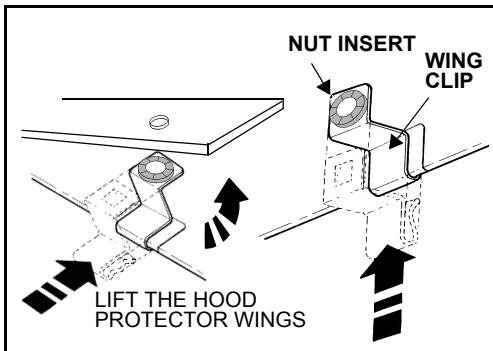

Figure 10.
10. Push one of these clips over each pre fitted non abrasive tape ensuring it is centrally positioned with the previously marked outer hole positions on each end of the hood. Depending on the amount of sealant on the under side of the hood, the clip may be difficult to push fully into position. A gentle tap to the edge of the clip with a small wooden mallet may help with the clip install. See figure 10.